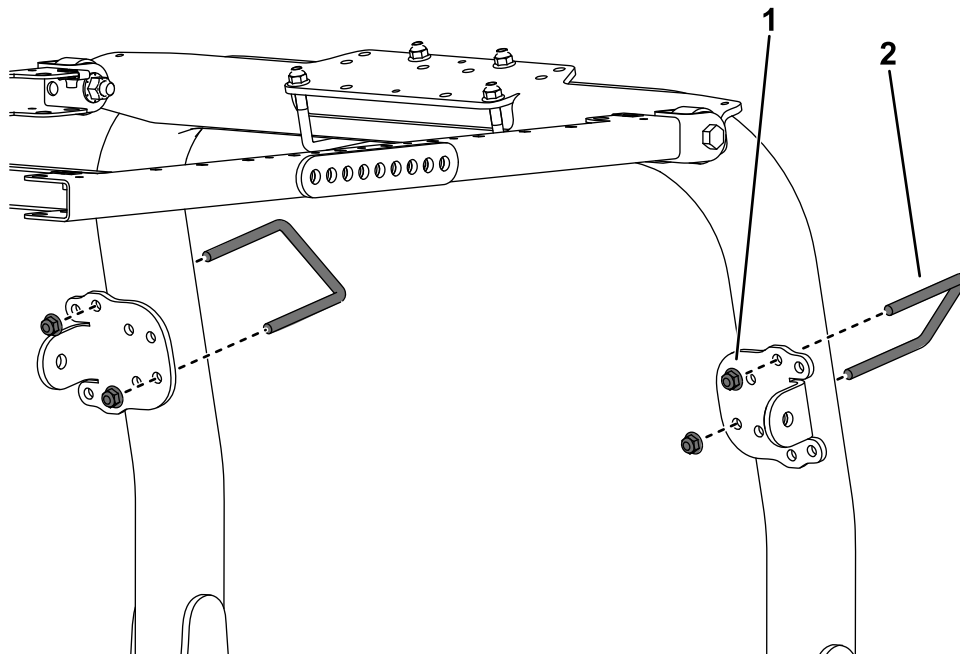

Figure 32
- Using the mounting holes shown in Figure 32, loosely secure each of the brace brackets to the